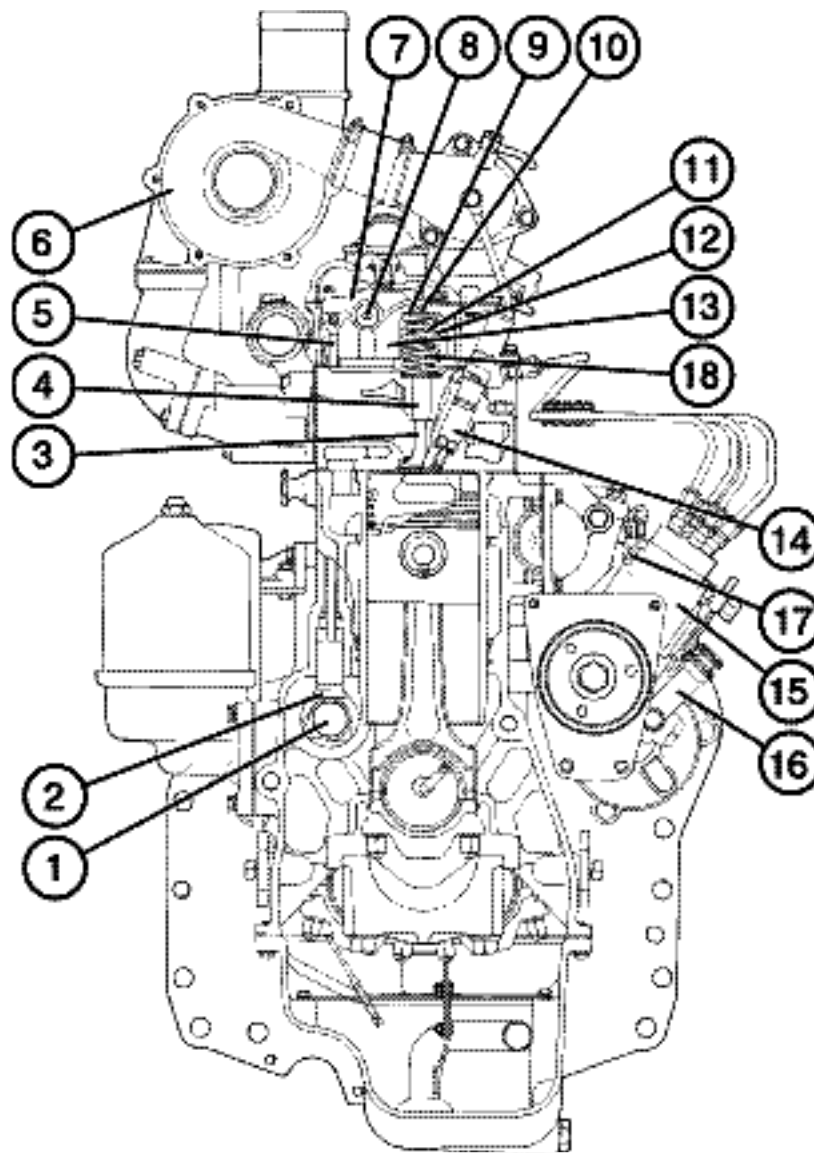

Fig. E-2. Д-260.2 diesel engine (cross section):
The cylinder head contains the inserted valve seats made of heat and abrasion resistant alloy. In the cylinder head, the injectors (14) (Fig. E-2) (three per head) are installed.
The **valve actuating and timing gear** (refer to Fig. E-2) consists of timing gears, camshaft, inlet and outlet valves, as well as their fitting and driving parts.
*) The distributive-type fuel pump shown in Fig. E-2 is not used at present. The Д-260.2/Д-260.2С/Д-260.2S2 engines are equipped with in-line pumps Type 363-40 (YAZDA Open Joint-Stock Company, Russia) or PP6M10P1f (Motorpal, Czechia).